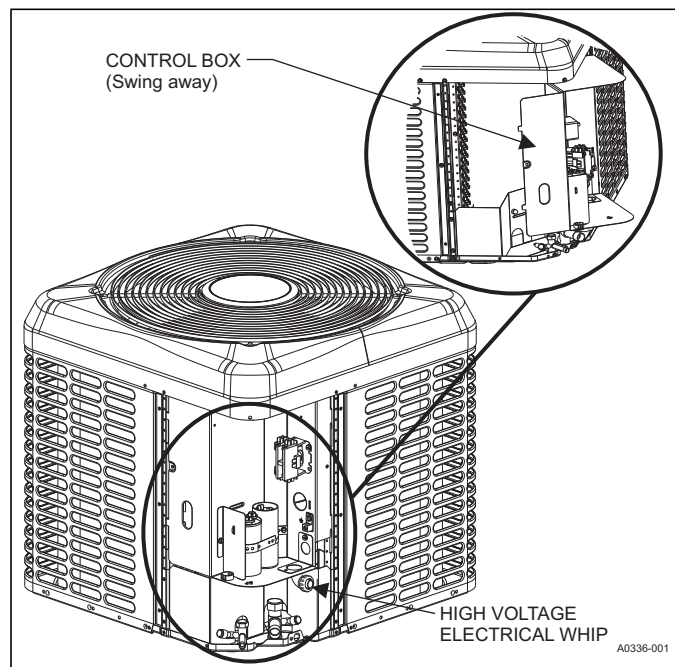

FIGURE 11: Outdoor Unit Swing Away Control Box
The control box can then swing open from the left by rotating on the right side pivots for easy service of refrigeration components. If no wiring is in or routed through the control box, it can be removed from the unit by lifting slightly, tilting the top hinge out, and lifting the bottom hinge out. During the installation, it is recommended to route the low voltage wiring for the thermostat along the unit whip to help facilitate the swing away feature of the control box. Refer to Figure 11.
4. Route wires from disconnect through power wiring exit provided and into the unit control box as shown in Figures 11, 12, 13 & 14.